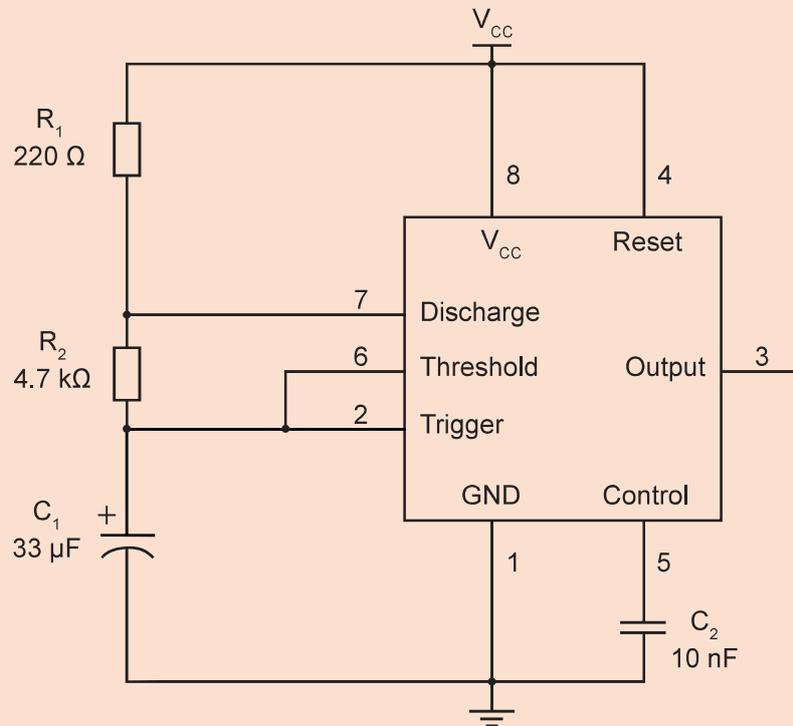

Figure 14.26
2. The 555 timer IC is connected to operate as an astable multivibrator as shown in Figure 14.26. Calculate the period of the output signal.